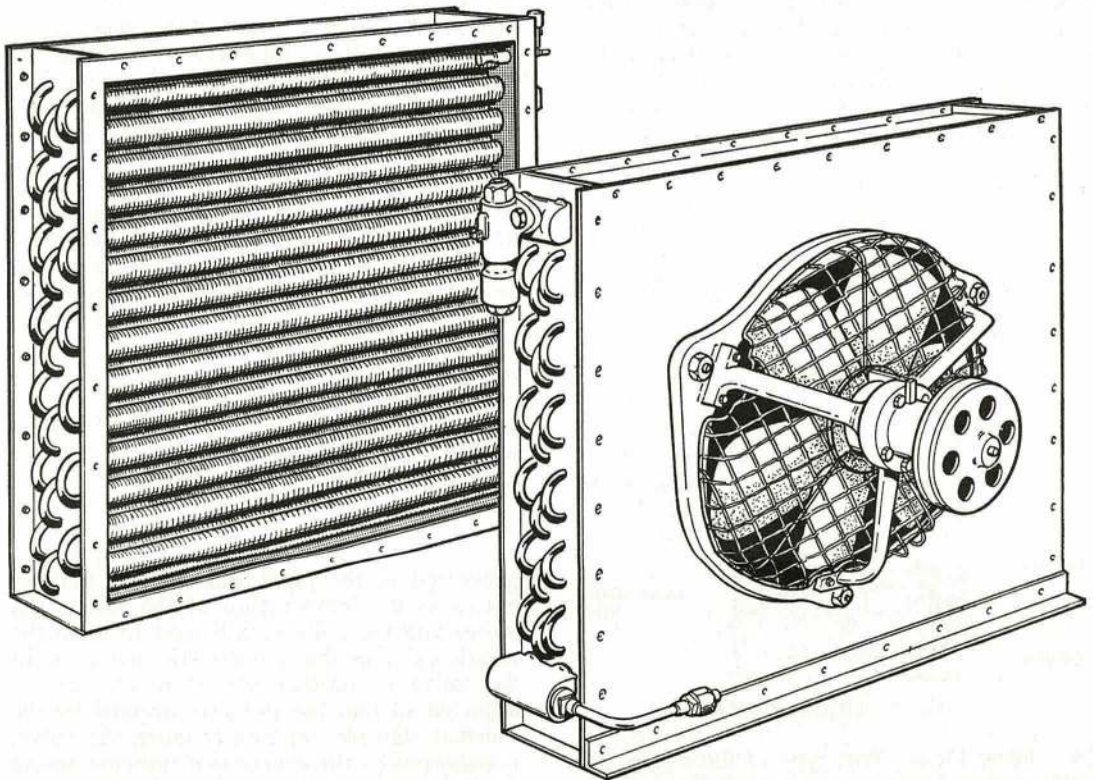

Fig. 6. CONDENSER
15. As stated previously the hot gas which leaves the compressor is liquefied in the condenser by removal of its latent heat. The type of condenser used will depend upon the size and application of the refrigerator, and may be either water or air cooled; the finned air-cooled type (Fig. 6) is very widely used. The design of the condenser is very important, because if the latent heat is not removed completely then some of the gas will not be liquefied and thus the subsequent cycle is unsatisfactory. On the other hand, if heat is still removed after the extraction of all the latent heat, then unnecessary pre-cooling occurs.
32. It follows from the foregoing that height above sea level affects the pressure of the atmosphere and necessitates correction of pressure gauge readings in order to use the temperature/pressure information given in chapter 1 (Figs. 6 and 7). Above sea level atmospheric pressure decreases and gauge readings must be corrected as shown in the table below:
Example. From Fig. 6, Chapter 1, it is seen that the temperature corresponding to 84 lb gauge pressure is 80°F. If a temperature measurement of refrigerant at 84 lb pressure shows 90°F. the gas would be said to have 10° of superheat.